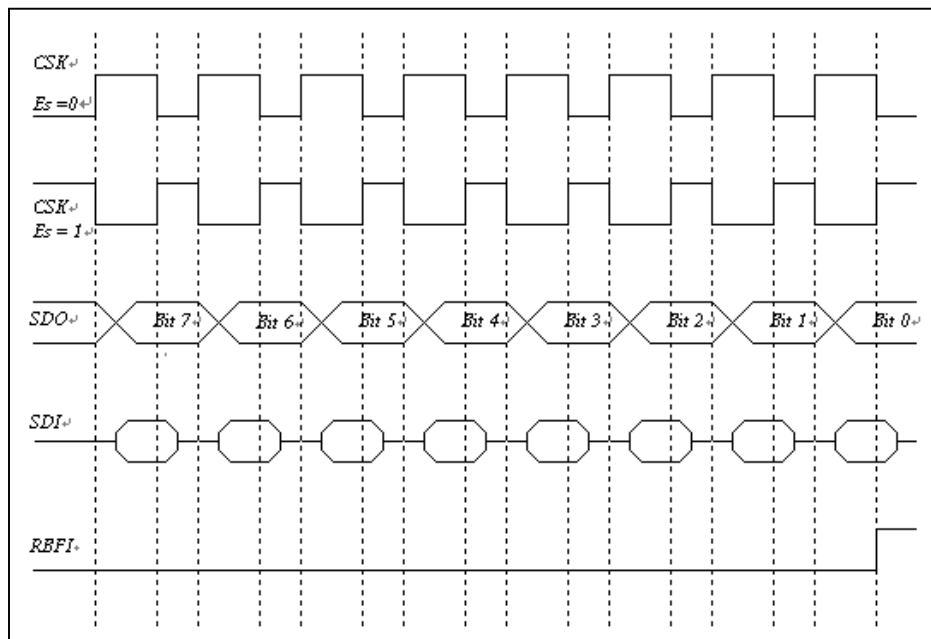
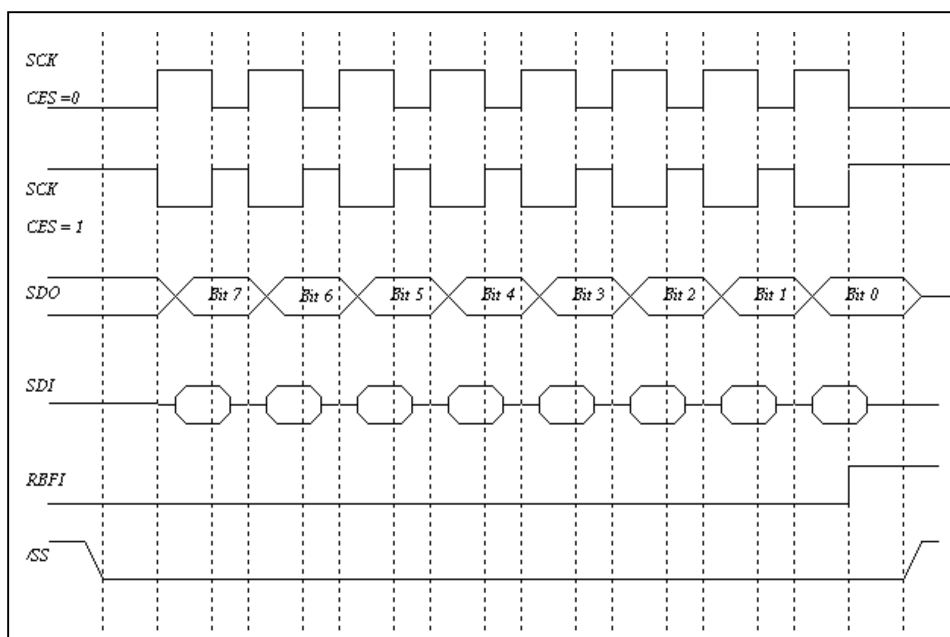

Figure 6-10a SPI Mode with /SS Disabled Timing Diagram
Figure 6-10b SPI Mode with /SS Enabled Timing Diagram
- Timing is shown in Figures 6-10a and 6-10b below.
- Timing is shown in Figures 6-10a and 6-10b.
The SCK edge is selected by programming the bit CES. The waveform shown in Figure 6-10a above, is applicable regardless of whether the eKTF5832 is in Master or Slave mode with /SS disabled. However, the waveform in Figure 6-10b below can only be implemented in Slave mode with /SS enabled.